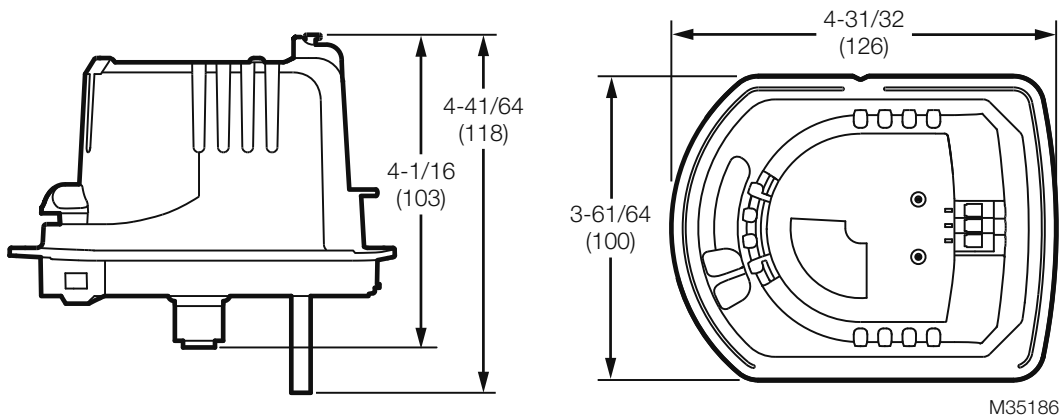

Fig. 1. Motor and damper dimensions in in. (mm).
**Motor Dimensions:** See Fig. 1.